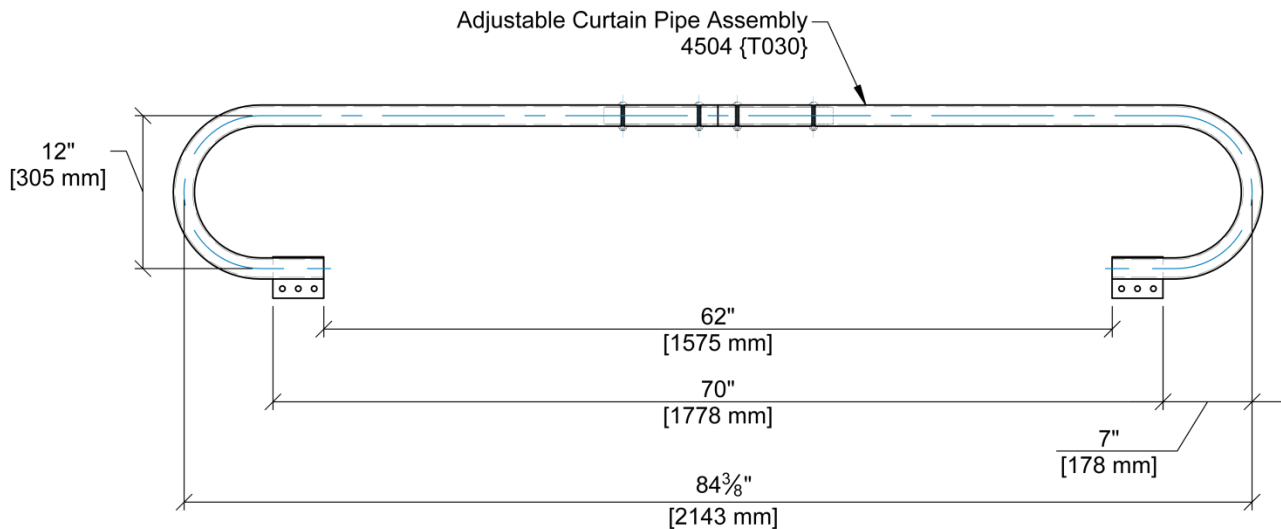

Figure 2
Step 1: Shorten one OR both of the Support Pipes by cutting the long side(s) of the pipe(s) based on the press mounting width and the Pipe Assembly dimensions shown in Figure 2 below. **Do not shorten the Support Pipe Insert.**
Step 4: Revolve Support Pipe 2 around the Insert Pipe such that the Pre-Welded Bracket orientation matches that of Support Pipe 1 as shown in Figure 2.